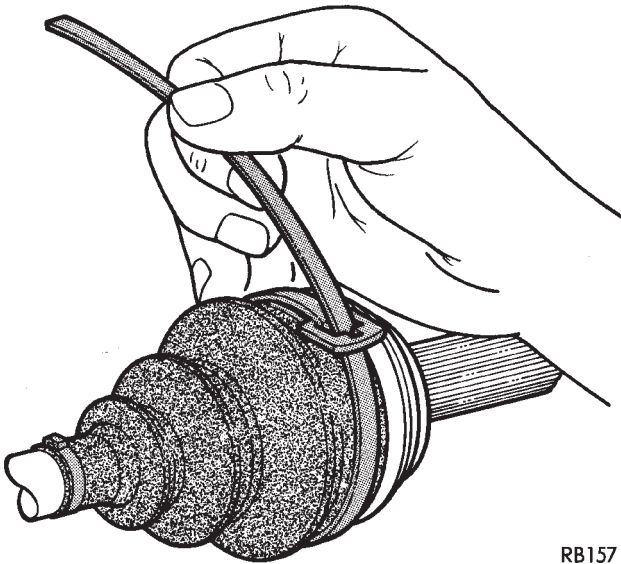

Fig. 4 Wrap Strap (through Buckle Eye) Twice
(6) Put the strap around the boot with the eye of the buckle toward you (Fig. 4). Wrap the strip around the boot once and pass it through the buckle, then wrap it around a second time also passing it through the buckle.